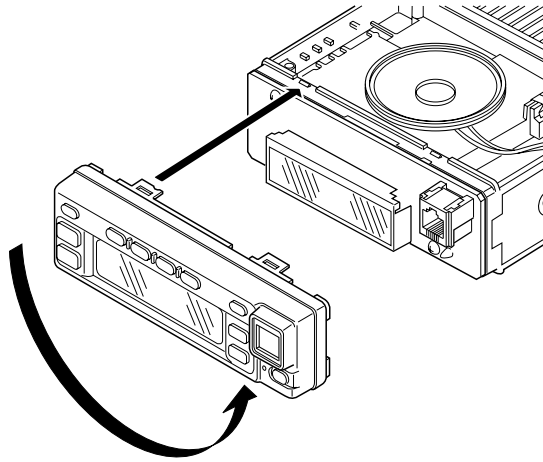

Fig. 13
- Rotate the control panel 180 degrees and mount it on the transceiver. Refit the two halves of the case to complete installation. (Fig. 13)